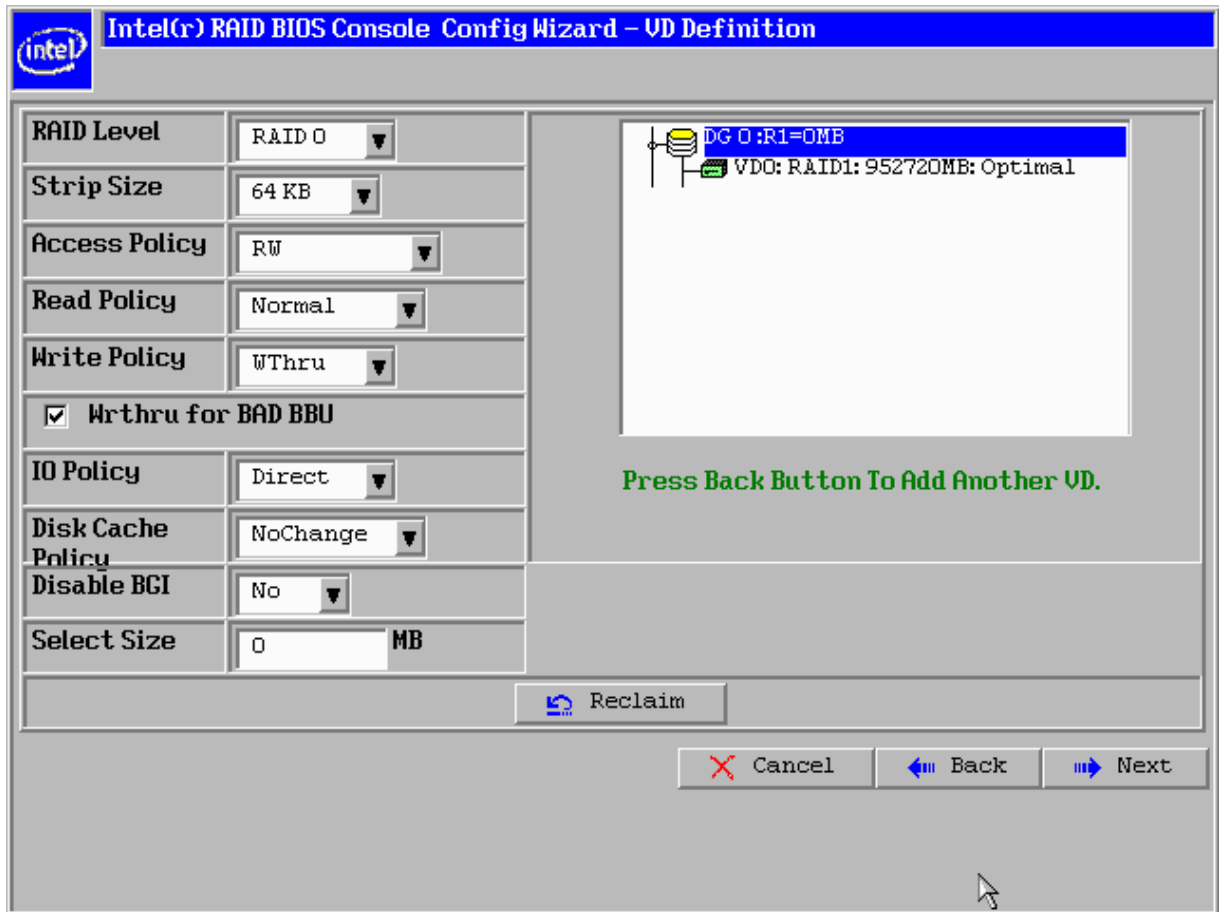

Figure 23. VD Definition Screen – RAID 1 Configured
18. On the next screen (see Figure 23), click **Back** to start RAID50 configuration.